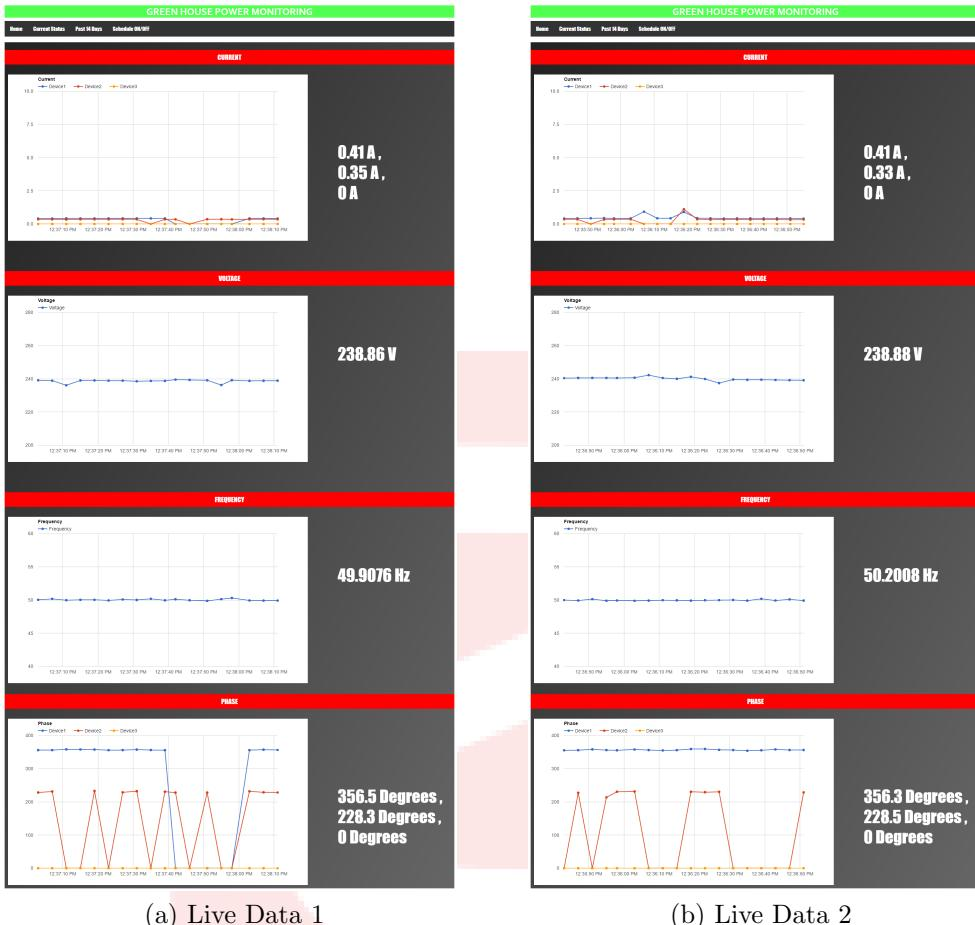

Figure 1.28: Real time updating graph
- Next is the current status page. See Figure 1.28.
devices. See Figure 1.28 for reference .